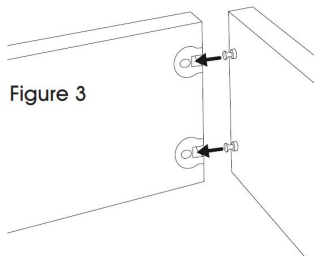

Figure 3
- 3 Arrange the (4) kick base boards to form a square. At each corner of the square, set the camlock pins of one board into the camlocks of the adjacent board. (See Figure 3)